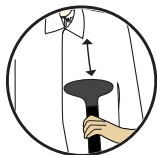

fig.20
- Start steaming by touching material lightly with steaming head and moving in an up/down vertical motion. (fig.20)